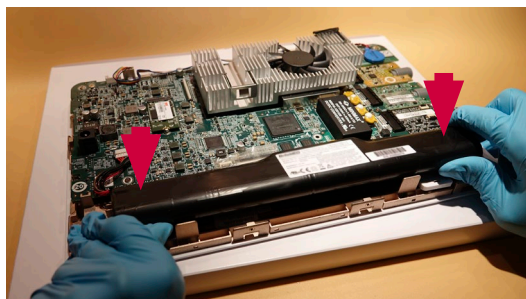

Figure 15 Place a new battery with the adhesive tape facing down
d) Place the new battery (Figure 15)